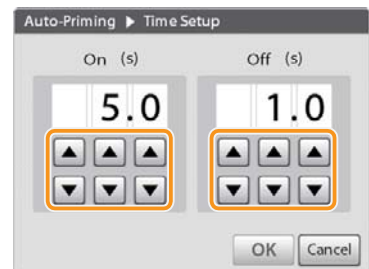

Figure 3-76
3. Tap ▲ or ▼, and input the time for “On (s)” and “Off (s)” you want to set. (Figure 3-76)